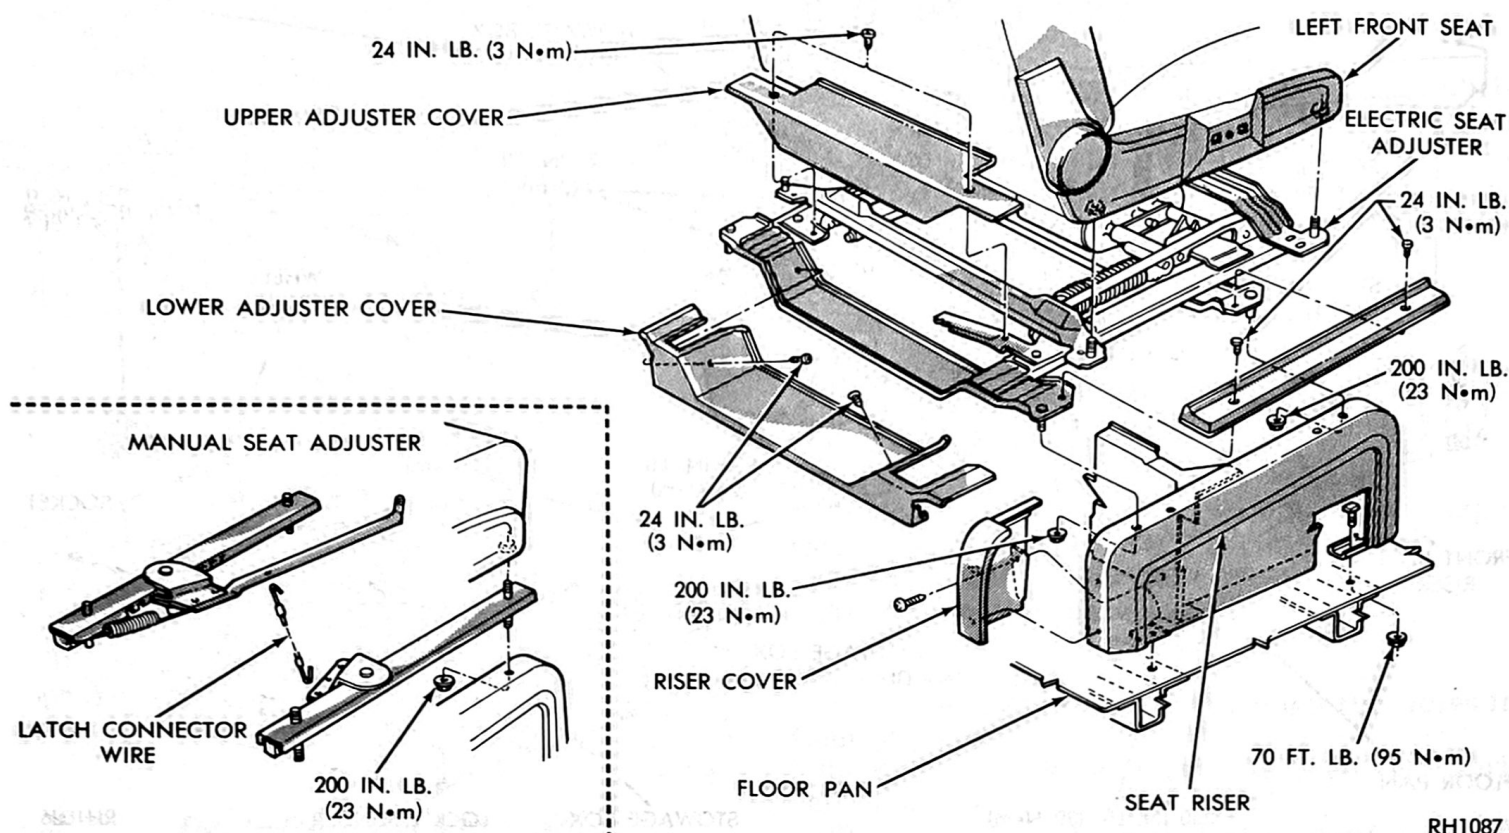

Fig. 4—Left Seat Adjusters and Riser
- (1) Remove the seat and riser from the vehicle floor pan.
- (2) Remove the seat riser covers.
- (3) Remove the four nuts and separate the seat adjuster from the seat riser assembly (Fig. 4).
- (4) Remove the fuel door remote handle and lever assembly.